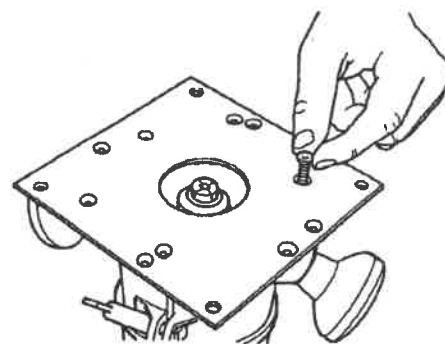

Fig. A-22
32. Start the screws in the mounting plate and router base, as in Fig. A-22.